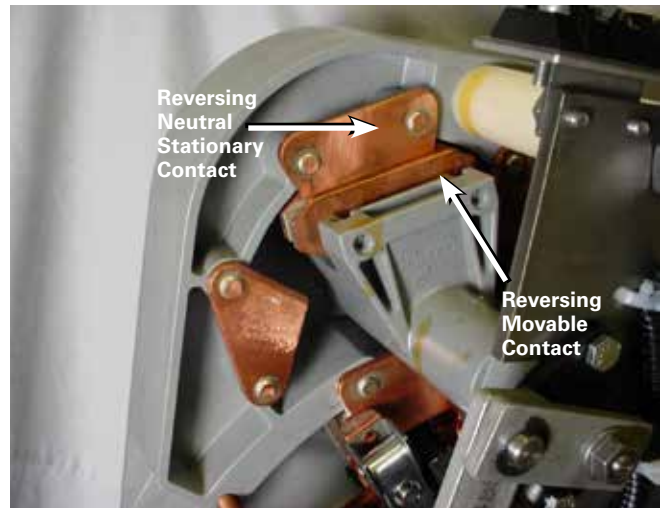

Figure 84. Neutral position for reversing movable.
- B. The reversing movable contact is located on the reversing neutral stationary contact. See Figure 84.